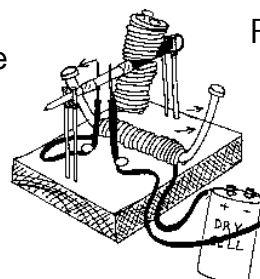

Figure 15
- Push **Field** poles slightly out of alignment with the turning **Armature** (*figure 15*) and observe.